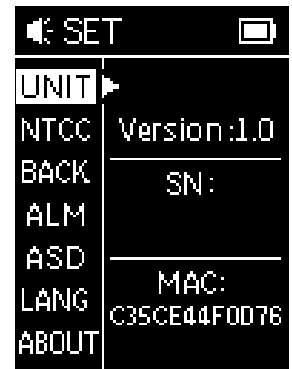

Figure 3
1. After the product is turned on, press and hold  the button for 3 seconds to enter the setting interface, as shown in Figure 3;